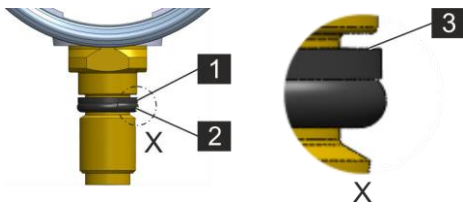

Fig. 189: O-ring and supporting ring
3. ➤ Check the O-ring (Fig. 189/2) and support ring (Fig. 189/1) of the contact pressure gauge for deformation and damage and replace if necessary (always as a pair). The flat side of the support ring (Fig. 189/3) must be turned away from the O-ring.